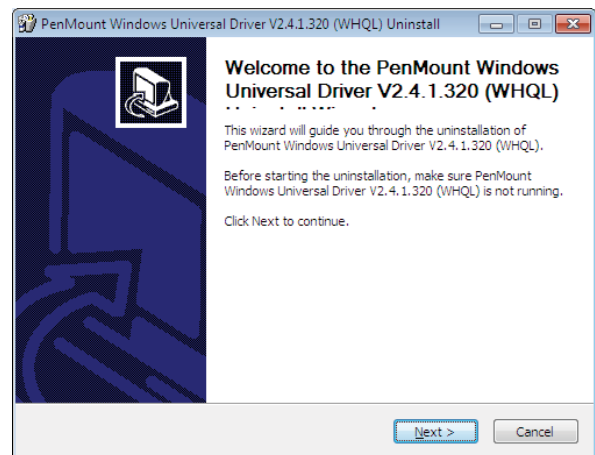

Fig.10
Step 2: When the following dialog window appears, click “Next” to remove the driver (Fig.10).